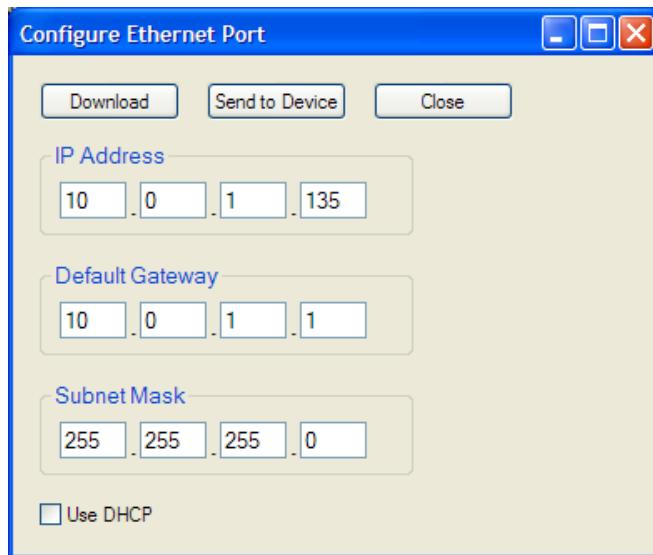

Figure 4-11. Configure Ethernet Port
2. Connect to the DGC-2020 through the USB port as described under *USB Communication*. Select *Configure*, *Ethernet* from the *File* pull-down menu. If the LSM-2020 is connected properly, the *Configure Ethernet Port* screen shown in Figure 4-11 will appear.